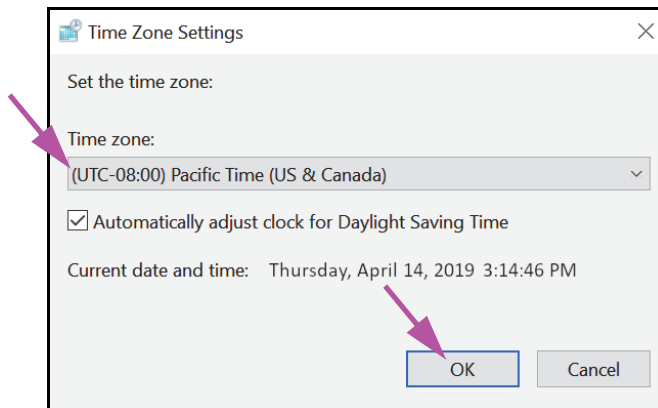

Figure 2-14. Time Zone Settings Dialog Box
5. Click the **Change Time Zone...** button. The Time Zone Settings dialog box appears. See Figure 2-14.